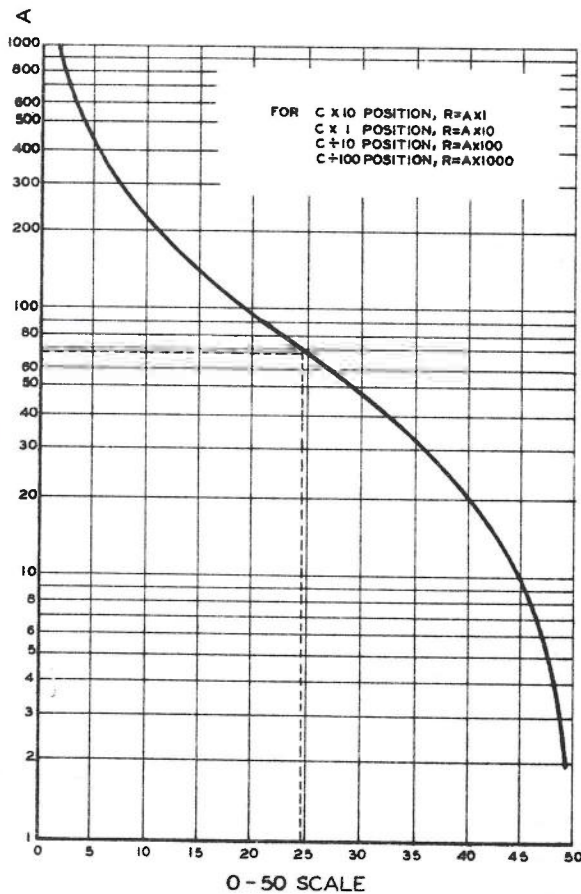

Figure 4-3. Resistance Curve for Capacity Meter Section
(1) **RESISTANCE.** - When measuring resistance connect the unknown resistor to the jacks of the Capacity Meter Section of the Tube Tester and set the **CIRCUIT SELECTOR** control at C x 10, C x 1, C ÷ 10, or C ÷ 100, whichever position gives a reading on the scale. Read the zero to 50 scale and refer to figure 4-3 to determine the resistance value.
Most power transformers and inter-stage audio coupling transformers have Q's on the order of 1 to 3 at audio frequencies. For a Q less than 1 measure the component as a resistor, using the resistance curves of figure 4-3.